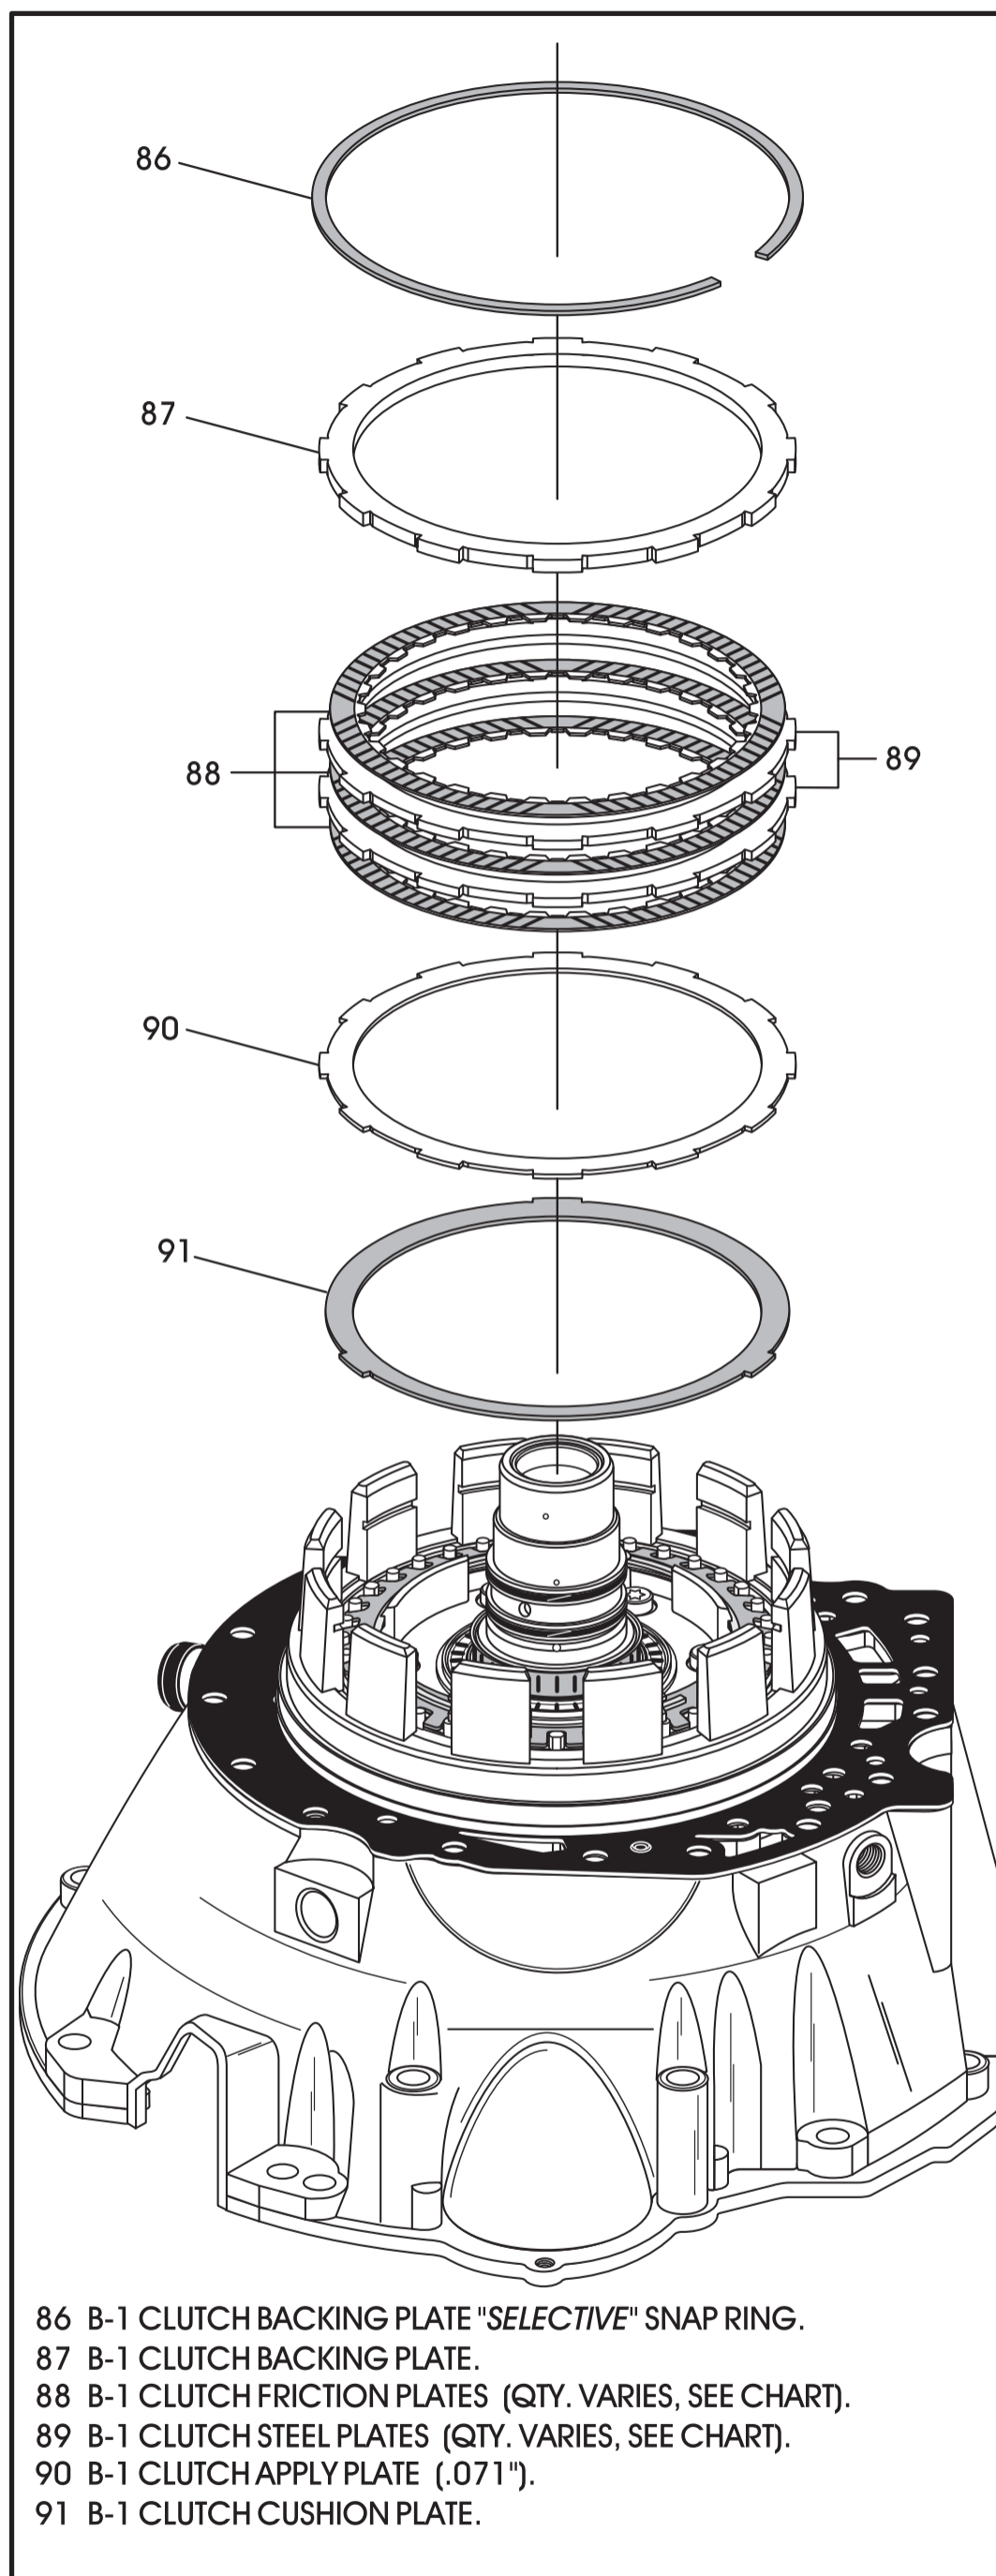

Figure 61
1. Place converter housing, oil pump, B-1 clutch assembly face down on a flat work surface, as shown in Figure 61.
2. Remove the B-1 clutch *selective* snap ring, as shown in Figure 61.
3. Remove the complete B-1 clutch, as shown in Figure 61.